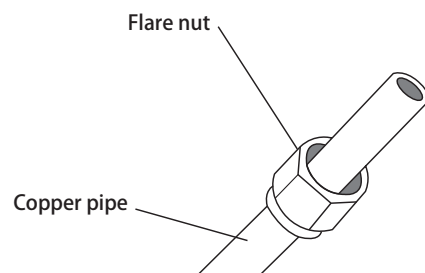

Fig. 8.5
3. Place flare nuts on both ends of pipe. Make sure they are facing in the right direction, because you can't put them on or change their direction after flaring. See Fig. 8.5